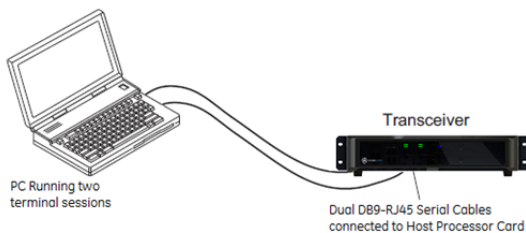

Figure 4. Setup for PC Configuration
5. **Set the radio's configuration.** Connect a PC to the radio's COM1 and COM2 ports as shown in Figure 4. A straight-thru cable may be used for this connection with an RJ45 to DB9 adapter. **NOTE:** Consult your System Administrator if you are unsure of the settings required for your network.